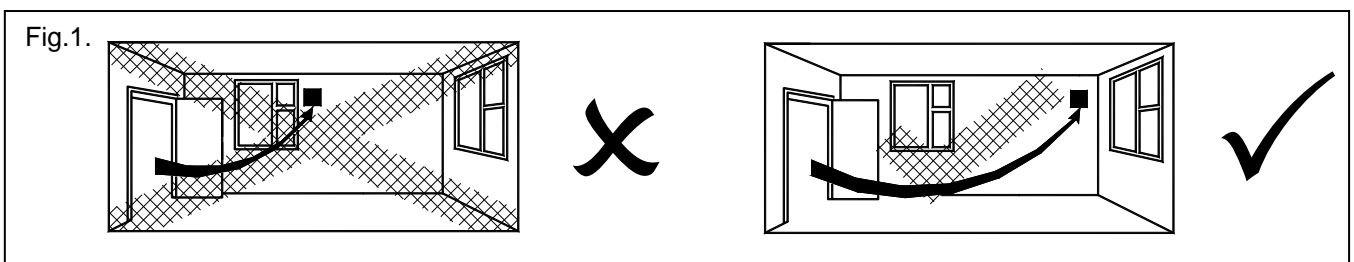

Fig.2 Models: 125B, 125HT (Timer not used)
1. Select and follow the appropriate wiring diagram. (Fig. 2 or 3)